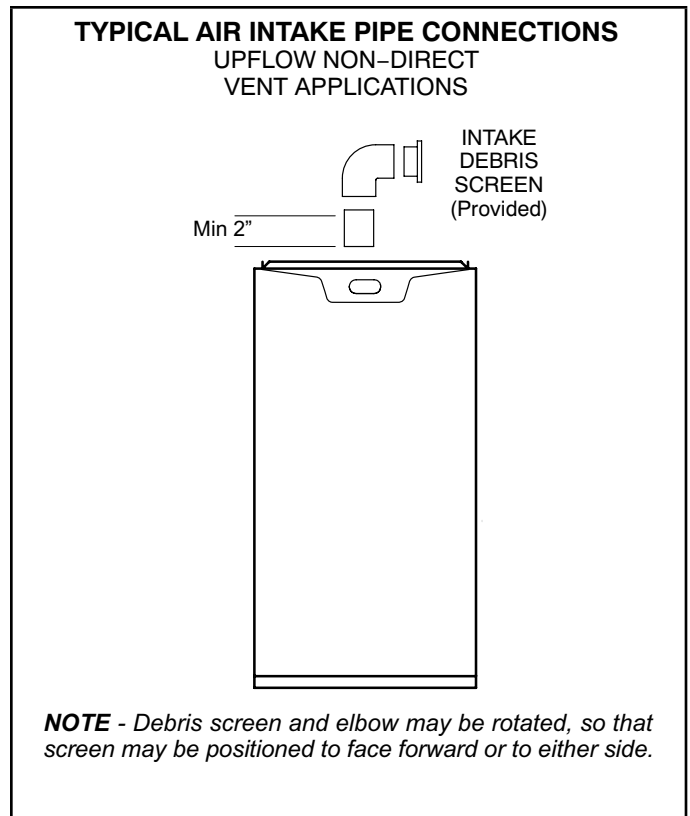

FIGURE 29
- 1 - Use field-provided materials and the factory-provided air intake screen to route the intake piping as shown in FIGURE 29 and FIGURE 30. Maintain a minimum clearance of 3" (76mm) around the air intake opening. The air intake opening (with the protective screen) should always be directed forward or to either side in the upflow position, and either straight out or downward in the horizontal position. **The air intake piping must not terminate too close to the flooring or a platform. Ensure that the intake air inlet will not be obstructed by loose insulation or other items that may clog the debris screen.**